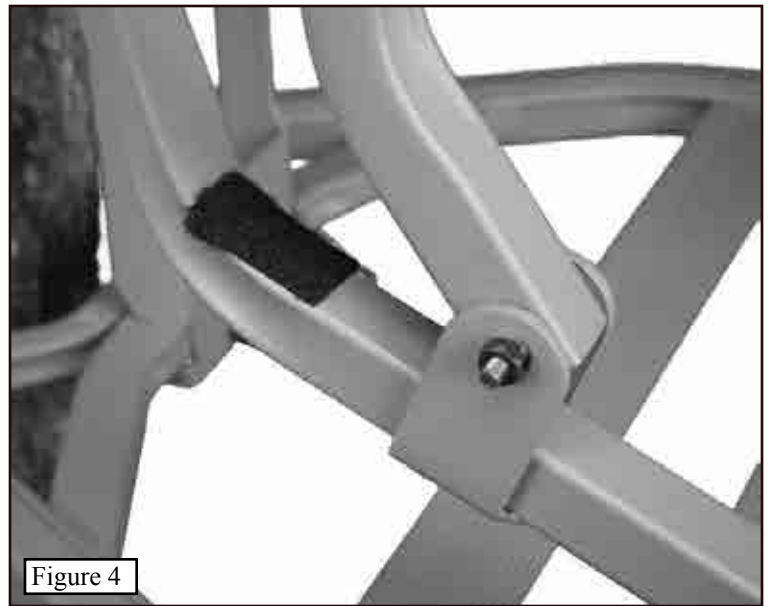

Figure 4
Step 4. Rotate the Seat Support Tube back against the arms. Note the position where the Support Tube makes contact with the arm. Apply the short self adhesive piece of Velcro to this spot as shown in **Figure 4**. This will keep the Seat Tube from making noise against the arms.